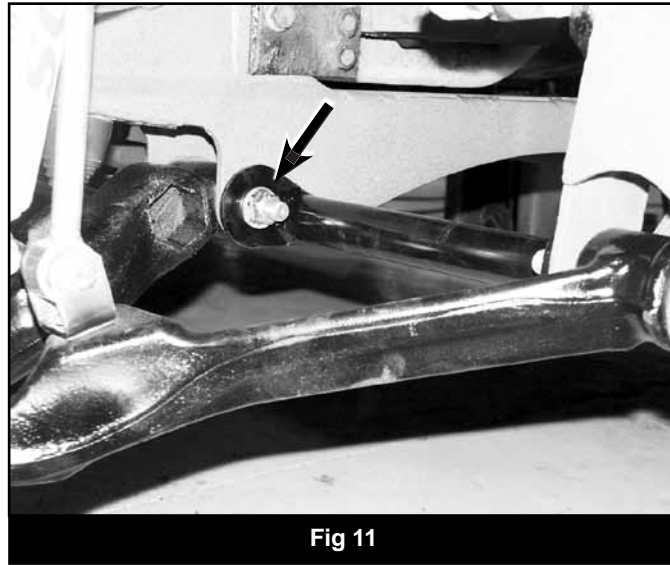

Fig 11
54. Lower the vehicle to the ground and bounce it to settle the suspension. Torque the lower control arm bolts to 125 ft-lbs. (Fig. 11)